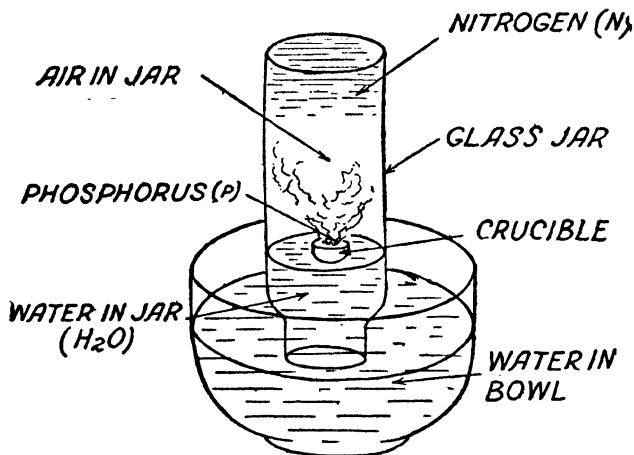

FIG. 3. AN EASY WAY TO MAKE NITROGEN
To get a small amount of nitrogen you only need to ignite a bit of *phosphorus* (P) and let it burn in a crucible floating on some water in a jar as shown in Fig. 3. While phosphorus is rather bad stuff to handle, it is easy to get the oxygen out of the jar with it, for they combine readily and so leaves the nitrogen behind.